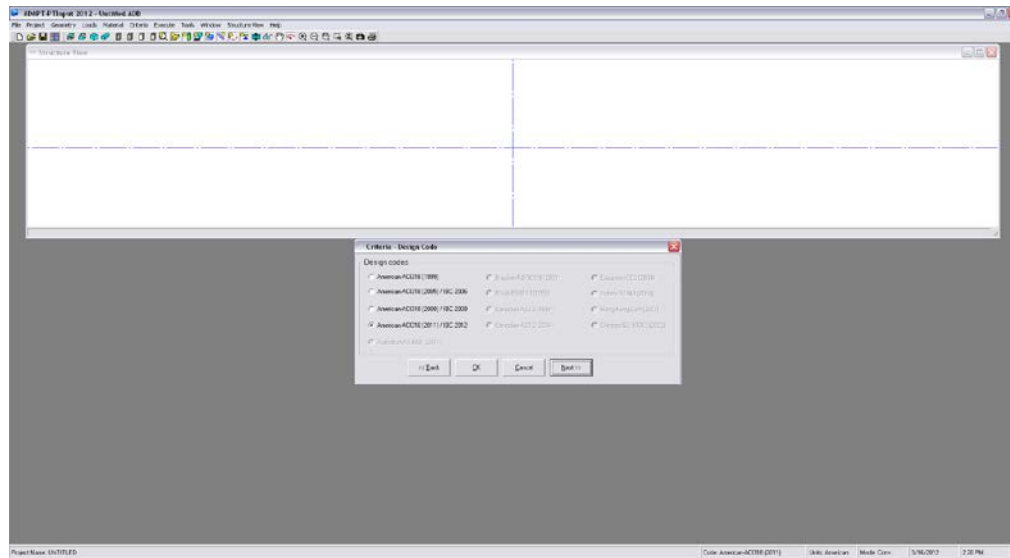

FIGURE 2.1-2
2.1.1.2 Design Code (Fig. 2.1-2)